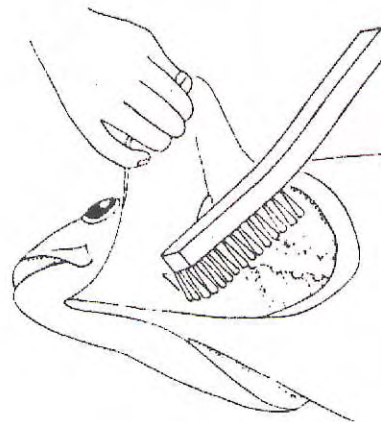

Figure 17. Scrub spine through gill openings to remove the kidney and coagulated blood.
- Step 11** Remove as much of the kidney and coagulated blood as possible from the backbone. Scrub the area with a stiff wire or nylon brush until spine becomes white (Figure 17).